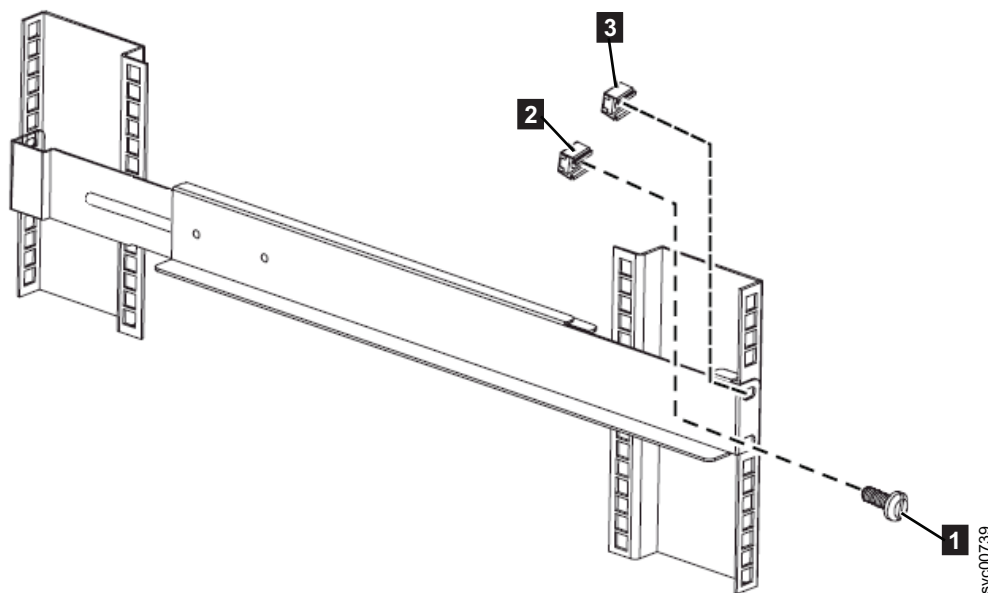

Figure 238. Attaching the front of the 2145 UPS-1U rail to the rack.
7. Install 2 clip nuts **2** and **3** to the front of the rack. Then, attach the rail using just 1 M6 x 10 screw **1** in the bottom mounting hole as shown in Figure 238.